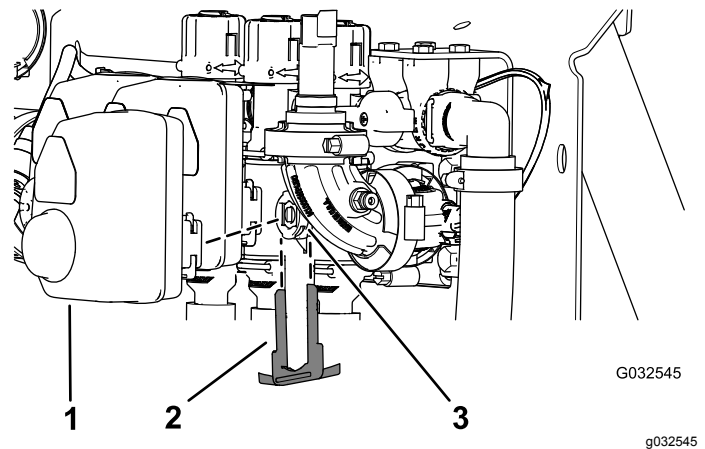

Figure 101
2. Remove the retainer that secures the actuator to the manifold valve for the section valve or agitation valve (Figure 101).